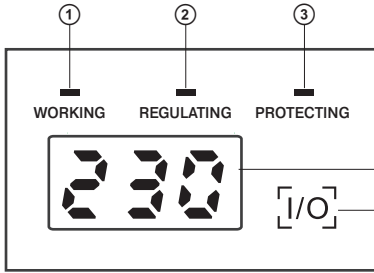

Fig. 1. Control panel
4. DESCRIPTION (SEE FIG. 1, 2 AND 3)
- ① NETWORK: LED (green) lights up when there is a input voltage.
- ② STABILIZATION: LED (yellow) lights up when operating stabilizer for rise/fall if the input voltage display is turned off.
- ③ PROTECTION: LED (red) lights up in case of accident (high/low voltage protection operation, autotransformer thermal overload), blinks at working off delay.
- ④ Digital display: on default it displays output/input voltage level (displaying accuracy $\pm 3\%$); "H" is displayed after shutoff due to high voltage; "L" is displayed after shutoff due to low voltage; "C" is displayed on overheating protection operation. In the Pause mode the countdown time to switch on the Automatic voltage regulator is displayed.
- ⑤ I/O: selection button is displayed the input or output voltage on the digital display.
- ⑥ Wall mounting holes.
- ⑦ Output socket.
- ⑧ Delay: delay selection button (6 or 180 s): while pressing the delay time will be 180 s, when not pressed — 6 seconds.
- ⑨ RESET/OFF: bimetallic circuit-breaker.
- ⑩ Power cord.